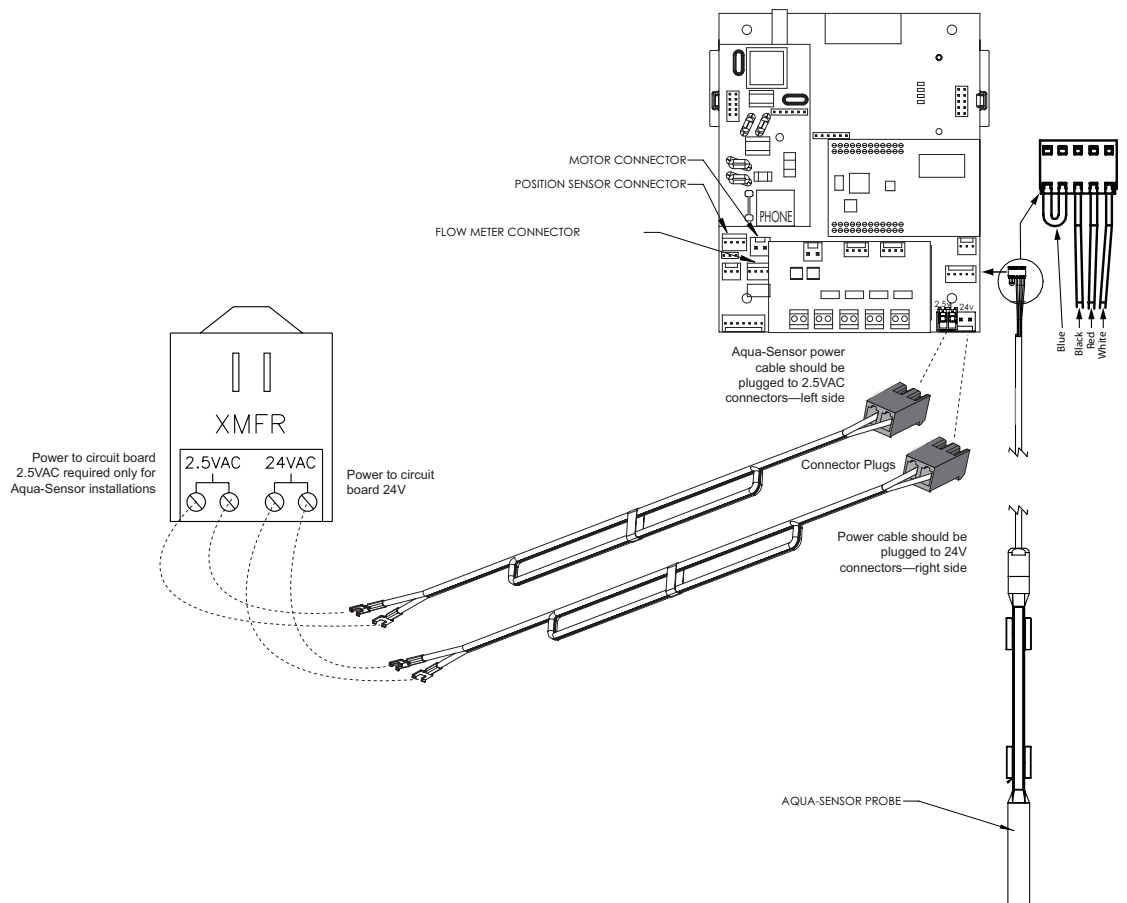

Figure 20. 2.5 VAC Aqua-Sensor® power connection.
- e. Connect the other end of the power cord, with the spade terminals, to the two 2.5 VAC terminals on the transformer. See Figure 20.